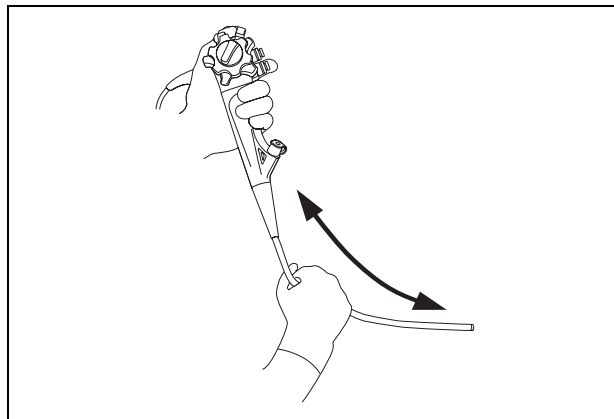

Figure 3.2
4. Holding the insertion tube gently with one hand, carefully run the fingertips over the entire length of the insertion tube in both directions (see Figure 3.2). Confirm that no object or protrusion of metallic wire around the insertion tube is stopping the hand. Also confirm that the insertion tube is not abnormally rigid.